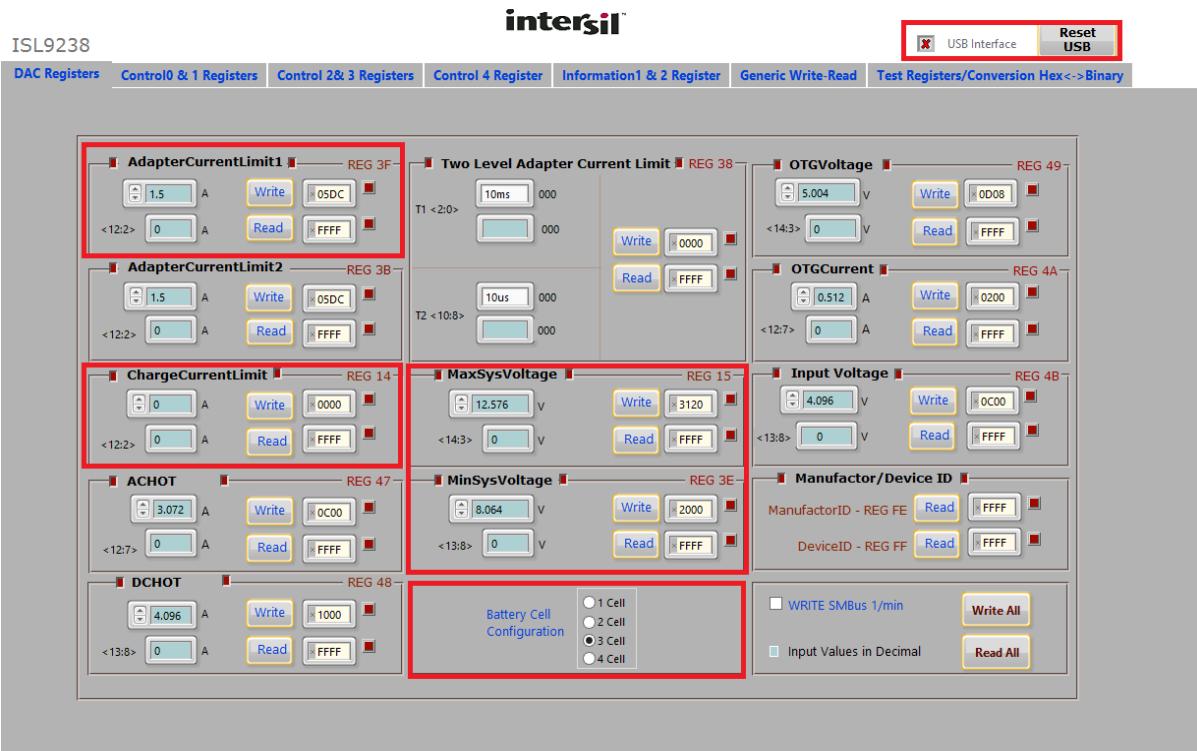

FIGURE 2. GUI SNAPSHOT
The number of battery cell and adapter current limit default values can be configured with a standard 1% 0603 resistor ( $R_{23}$ ) from the PROG pin to GND. The "PROG PIN PROGRAMMING OPTIONS" table in the ISL9238 datasheet shows the programming options. After the default number of cells in series are set, the default values for MaxSystemVoltage and MinSystemVoltage are set accordingly. These values can also be changed through the SMBus control registers, which are implemented with the Intersil GUI, shown in Figure 2 on page 3.
4. Turn on the power supply; LED 3 goes out. Then turn on the battery emulator and open Intersil ISL9238 GUI (Figure 2 on page 3). Note: The USB interface with a green tick means the GUI is ready to communicate with the evaluation board. If the USB interface shows a red cross, the GUI is not ready to communicate with the evaluation board. Click the “reset USB” button until a green tick shows in the USB interface. If not green, check the USB connection.